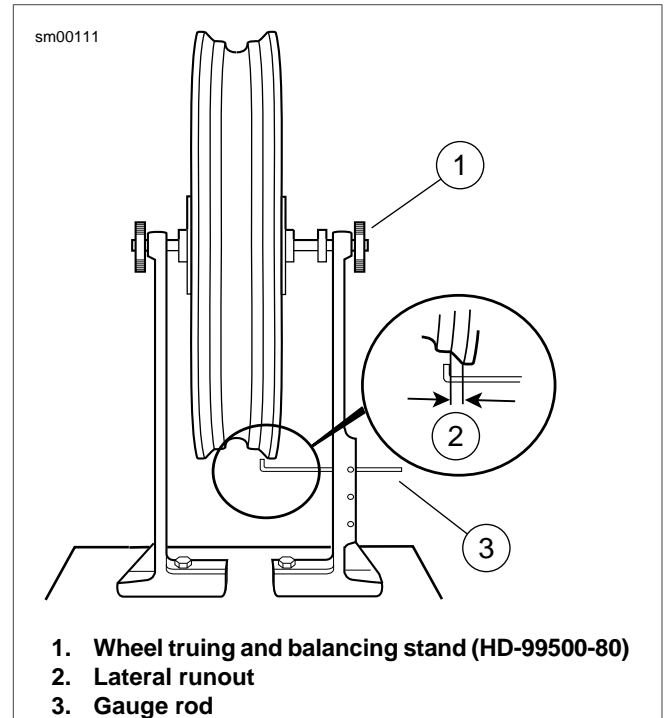

Figure 2-32. Checking Cast Rim Lateral Runout
1. See Figure 2-32. Install truing arbor in wheel hub and place wheel in the WHEEL TRUING AND BALANCING STAND (Part No. HD-99500-80).